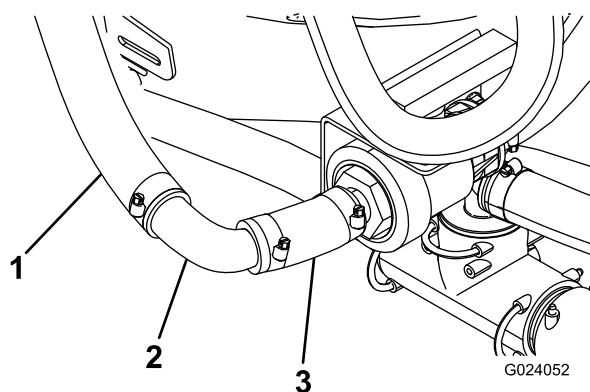

Figure 22
1. Measure and cut 7.5 cm (3 inches) from the end of the agitation hose (Figure 22).
3. Trim the excess from the agitation hose and connect it to the 90° fitting with a hose clamp (Figure 22).